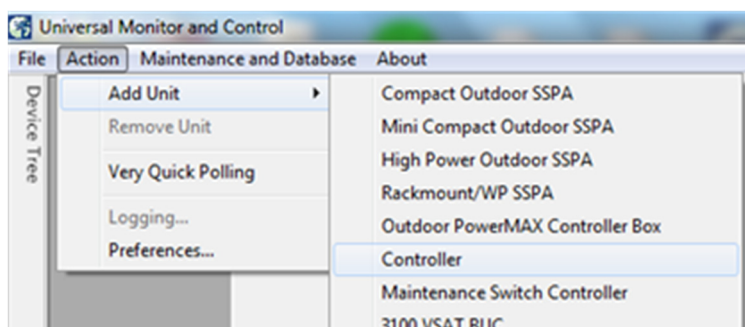

Figure 7-1: Select Action > Add Unit > Controller
1. With the system operating, select the Action pull-down menu, select Add Unit, and select Controller. See **Figure 7-1**.